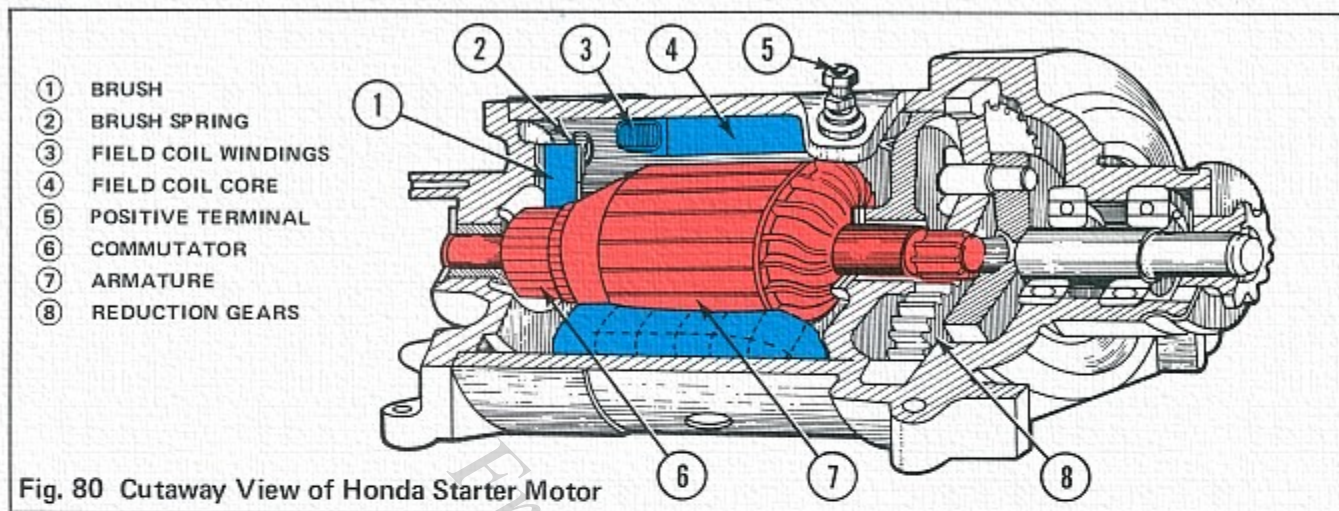
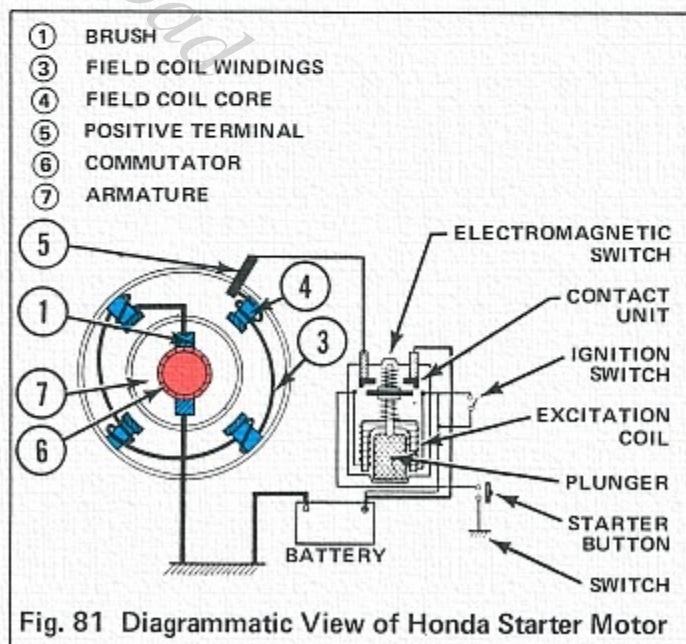

Fig. 80 Cutaway View of Honda Starter Motor
Fig. 81 Diagrammatic View of Honda Starter Motor
A cutaway view of a Honda starter motor is shown in Fig. 80. A diagrammatic view of the same motor is shown in Fig. 81.
The torque of a motor containing only a single armature winding (Fig. 76 - 79) is neither continuous nor very effective. A practical starter motor (Fig. 80) contains a large number of wire coils wound around a laminated iron armature core. At one end of the armature (7), there are a number of copper commutator segments (6), corresponding to the number of armature coils. The commutator segments are insulated from each other by pieces of mica. The armature coils are so spaced that, for any position of the armature, there will be coils near the poles of the field magnets (4). This makes the torque both continuous and strong. Electromagnets (3) (4) are used in the starter motor because they can be made to furnish a stronger field than the permanent magnets shown in Fig. 76 - 79.
The brushes ① and commutator ⑥ connect the field coil windings ③ with the armature ⑦ windings in series (Fig. 81). Any increase in current therefore strengthens the magnetism of both the field and armature. A series D.C. motor produces high starting torque, which is necessary in a starter motor. Relatively thick wire is used to keep resistance low, enabling the motor to draw large amperage.
The armature shaft is connected to reduction gears ⑧ which multiply the motor's torque, enabling it to crank the engine. Reduction gears may be contained in the engine crankcase or built into the starter motor housing, depending on Honda model. Fig. 80 shows a planetary gear set ⑧ within the starter motor housing.
Continuity testing can be done with a VOM, ohmmeter, or a battery powered continuity tester of the same sort used to check static ignition timing (see page 37). Test results, indicating continuity or no continuity, should correspond logically with the circuit shown in Fig. 81 (page 49). Other results indicate faulty connections, or a faulty armature or field coils.